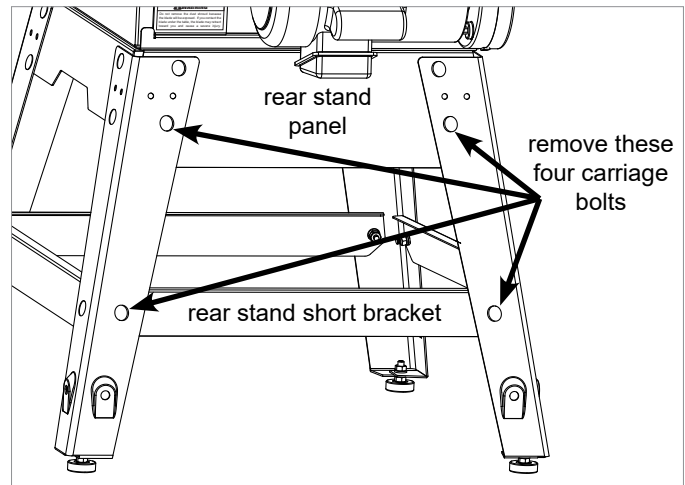

Fig. 1
1. The SawStop® Dust Collection Panel mounts to the rear of the contractor saw stand. Begin the installation by removing the two lower carriage bolts that mount the rear stand panel and the two carriage bolts that mount the rear stand short bracket (see Fig. 1). The rear stand short bracket can be discarded because the dust collection panel will replace it. The four carriage bolts, washers, lock washers, and hex nuts that were removed will be used in the next step to secure the dust collection panel to the stand.